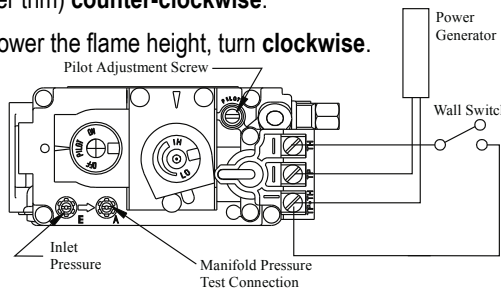

Figure 31. 'Hi-Lo' Adjustment on the **B-Series DV-2-F's** gas valve.
The **B-Series DV-2-F** is equipped with an adjustable burner, allowing you to raise or lower the flames. To adjust the flames, locate the black knob marked 'Hi-Lo', in the left of the gas control valve (See **Figure 31**). The front burners are not adjustable.
- An inspection of the gas valve, gas components, and pilot flame. For your convenience a 1/8" manifold pressure tap is supplied on the gas valve for a test gauge connection. See **Figure 31 & 32**.